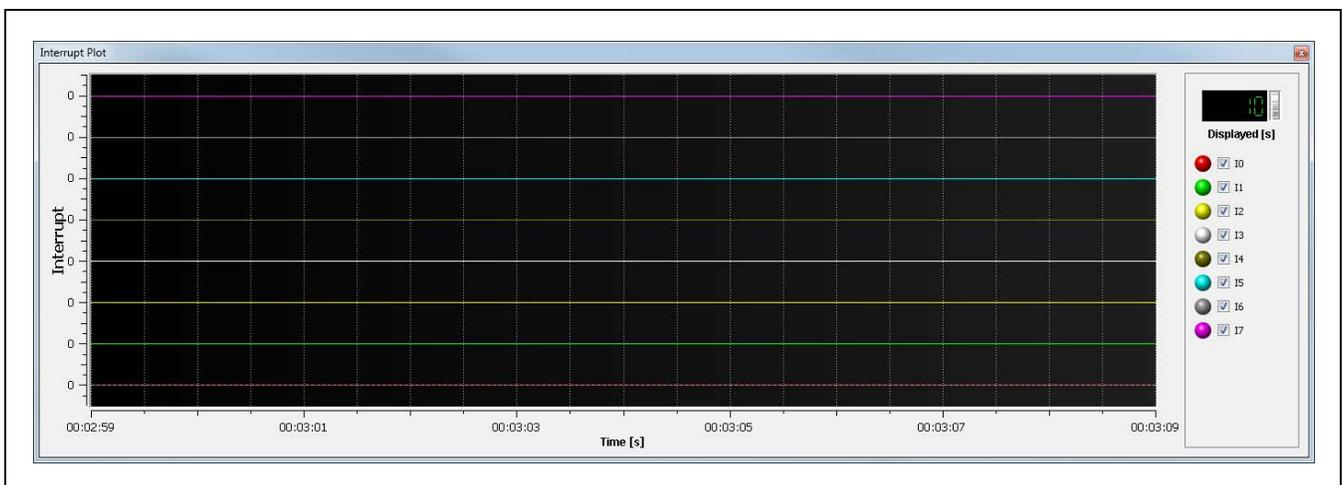

Figure 22. Interrupt Plot
- **Interrupt Plot:** This view shows a plot for the interrupts status (Figure 22).